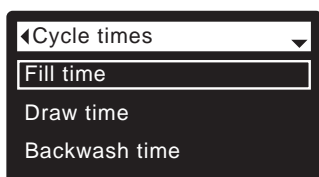

FIG. 75*
5. Press the SELECT (O) button to display the Cycle times menu (See Figure 75*).
9. Press the SELECT (O) button. The display will go back to the Cycle times menu (Figure 75*).